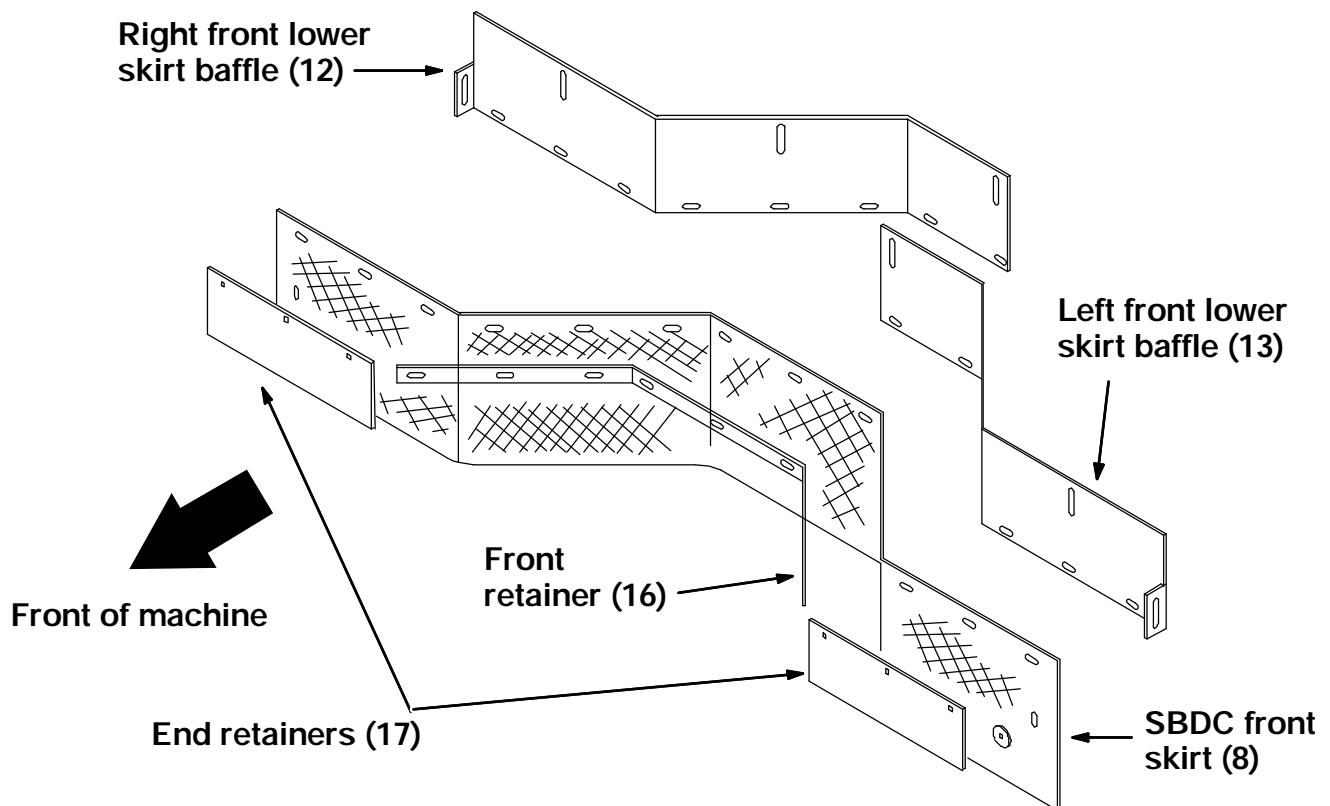

FIG. 4 - Assemble Front Skirt
5. Install U-nuts (34) in the holes along the bottom of the upper panel assembly. (Refer to Fig. 4)
6. Assemble the right front lower skirt baffle (12) to the left front lower skirt baffle (13). (Refer to Fig. 4)
7. Install U-nuts (34) in the holes along the bottom of the lower skirt baffle assembly. (Refer to Fig. 4)
8. Assemble the SBDC front skirt to the lower skirt baffle assembly using two end retainers (17) and one front retainer (16). (Refer to Fig. 4)